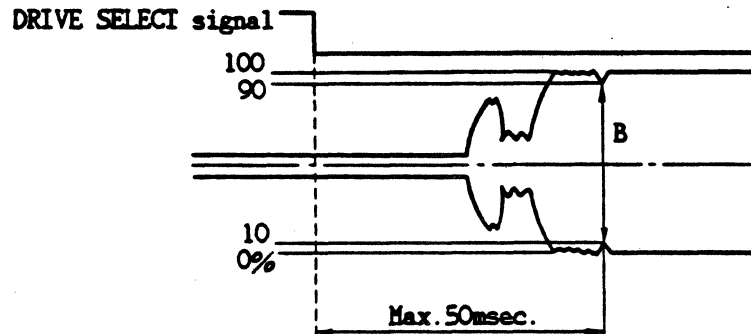

Figure 4-17 Head Load Interval and Signal "B"
6. Refer to Figure 4-17. While selecting and deselecting the drive, measure the time from head unload to head load. Ensure that the time, from scope trigger to 90% of maximum amplitude (Level "B") is less than 50 milliseconds.
12. If the head load or unload level is out of specification (see Figure 4-17), readjust the Head Load Adjustment Screw (see step 7 above) and then repeat steps 4 through 11 as required.